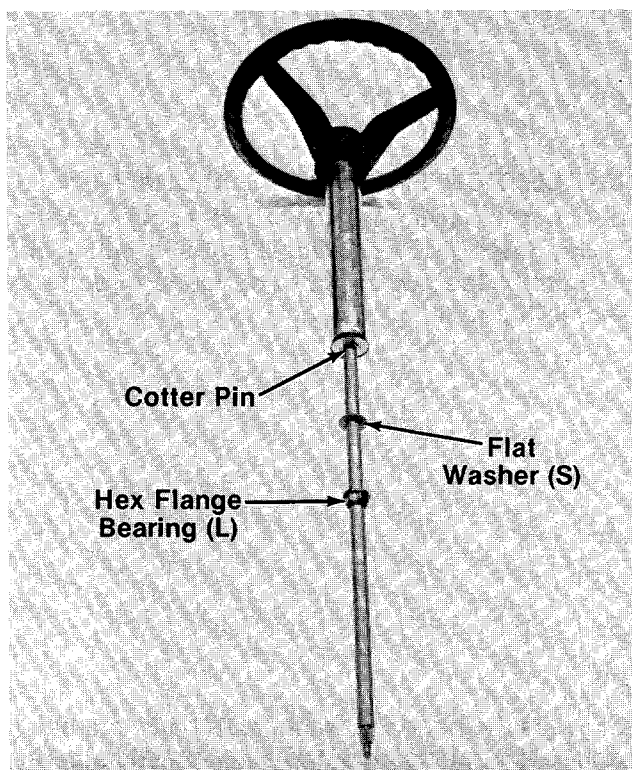

FIGURE 6.
7. Slip **flat washer (S)** ($1\frac{1}{4}$ " diameter) on the **steering shaft** immediately below the cotter pin. Place one plastic **hex flange bearing (L)**, flat side up, below the washer. See figure 6.